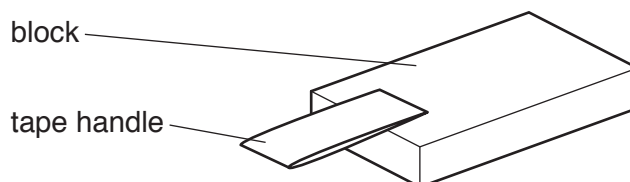

Fig. 2.3
- 2 A handle made from adhesive tape should be securely stuck onto one end of the transparent block as shown in Fig. 2.3. It should be possible to pick up the block using this handle.